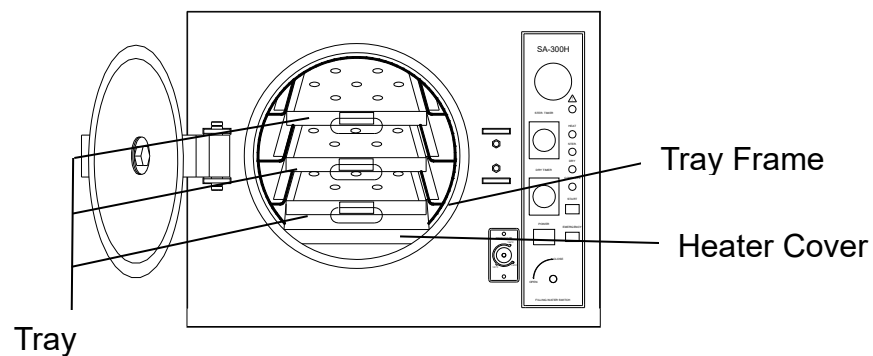

Figure 8
F. Install the tray as Figure 8 (optional accessory)